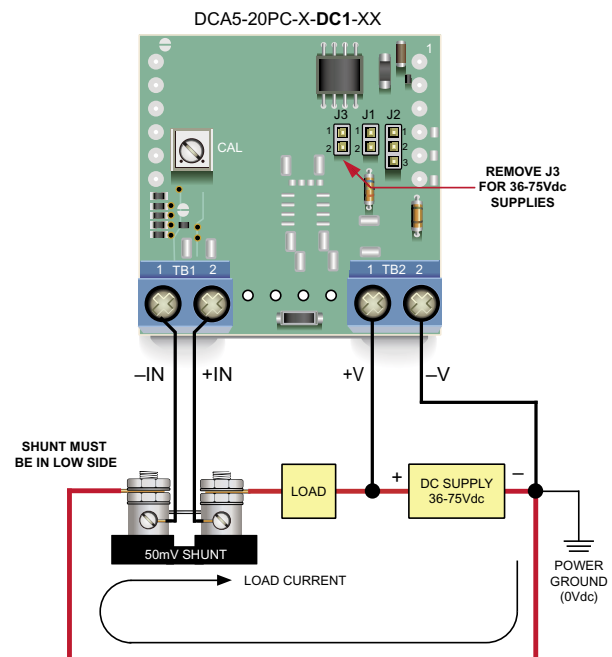

Figure 3. Low-Side Shunt Connections for "-DC1" Models Modified for 36-75Vdc Non-Isolated Power (See Technical Note 5)
5. **Operation With 36 to 75Vdc Power:** As shipped, all '-DC1' models' rated operating supply range is +5 to +40Vdc. However, '-DC1' models can be user configured for 36 to 75Vdc operation by removing (opening) jumper J3. Please note that this user modification can only be performed on '-DC1' power models. Also, all '-DC1' models – including those that have been modified for 36-75Vdc operation – can only be connected in low-side, grounded-shunt applications. See Figure 3 for detailed wiring information. Any reconfiguration of J3 must be made prior to connecting the power supply and shunt to the ammeter.